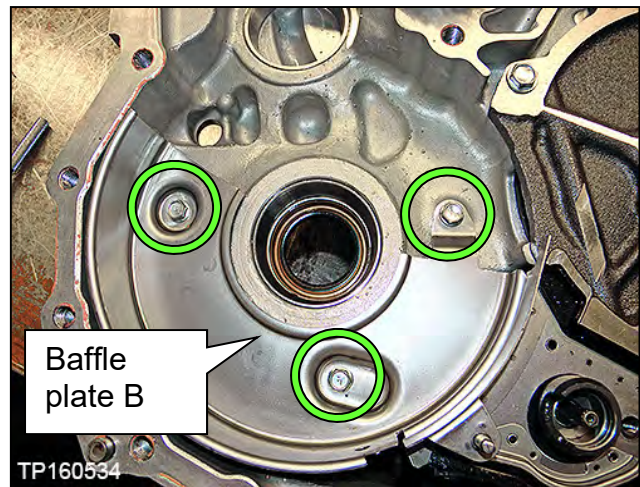

Figure 45
27. Remove the three bolts from baffle plate B, and then remove baffle plate B (Figure 45).